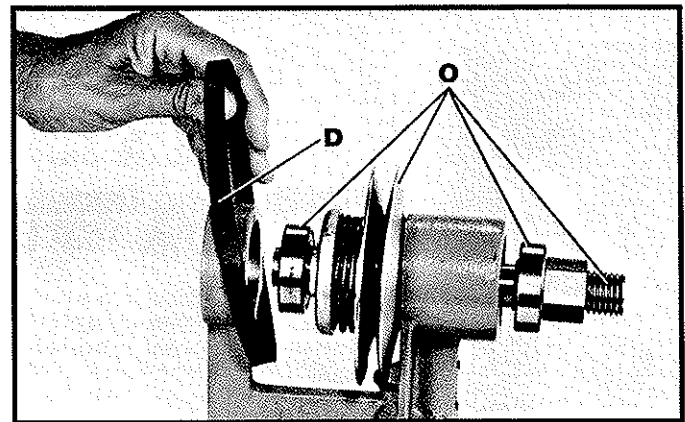

Fig. 93
10. Push spindle assembly (O) Fig. 93, to the right as shown to provide clearance enabling you to remove the belt (D). It may be necessary to tap on the left end of the spindle with a dowel rod to move spindle.